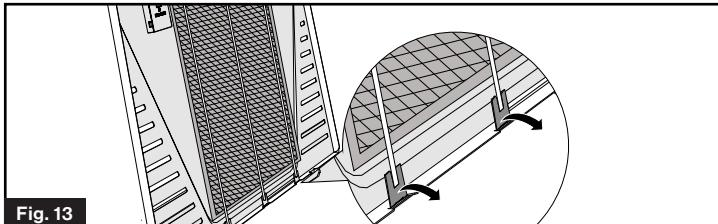

Fig. 13
3. To remove the filter, lift up on the filter rod tabs (6 total) and remove the rod from the filter panel. (Fig. 13)